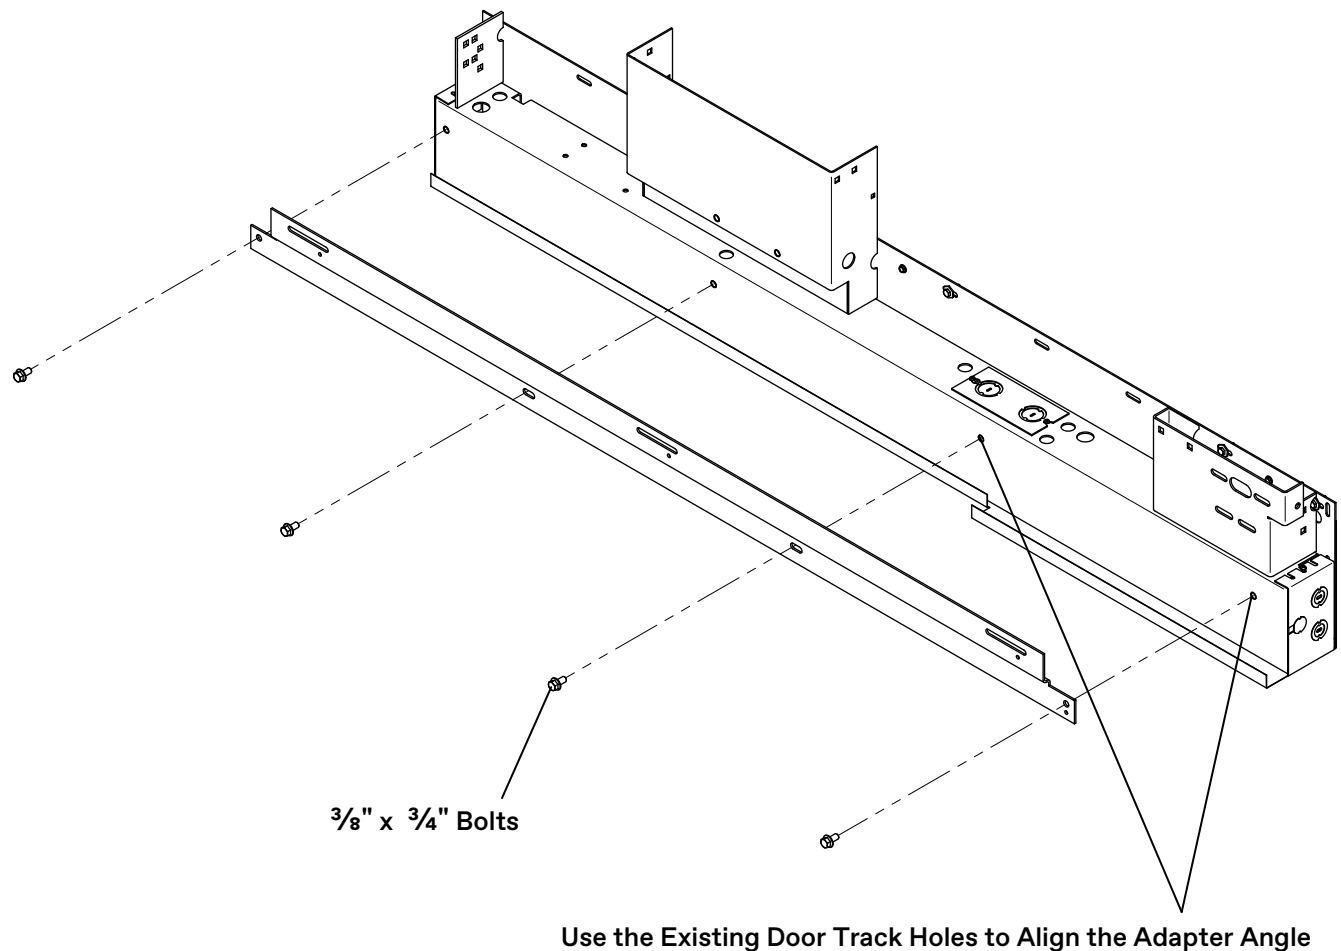
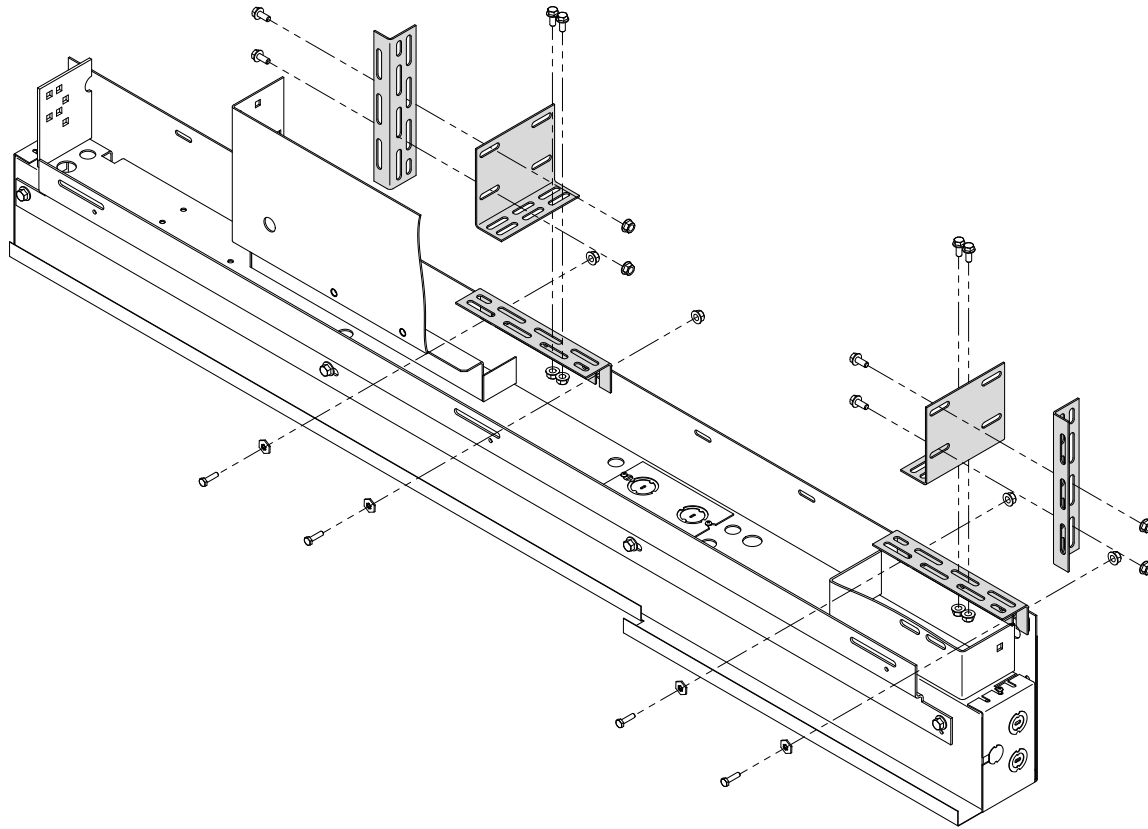

Figure 12 - Adapter Angle Installation (1 of 3)
Figure 13 - Adapter Angle Installation (2 of 3)
7. Use the existing door track holes to align the adapter angle. See Figure 12 below and Figure 13 on page 18.